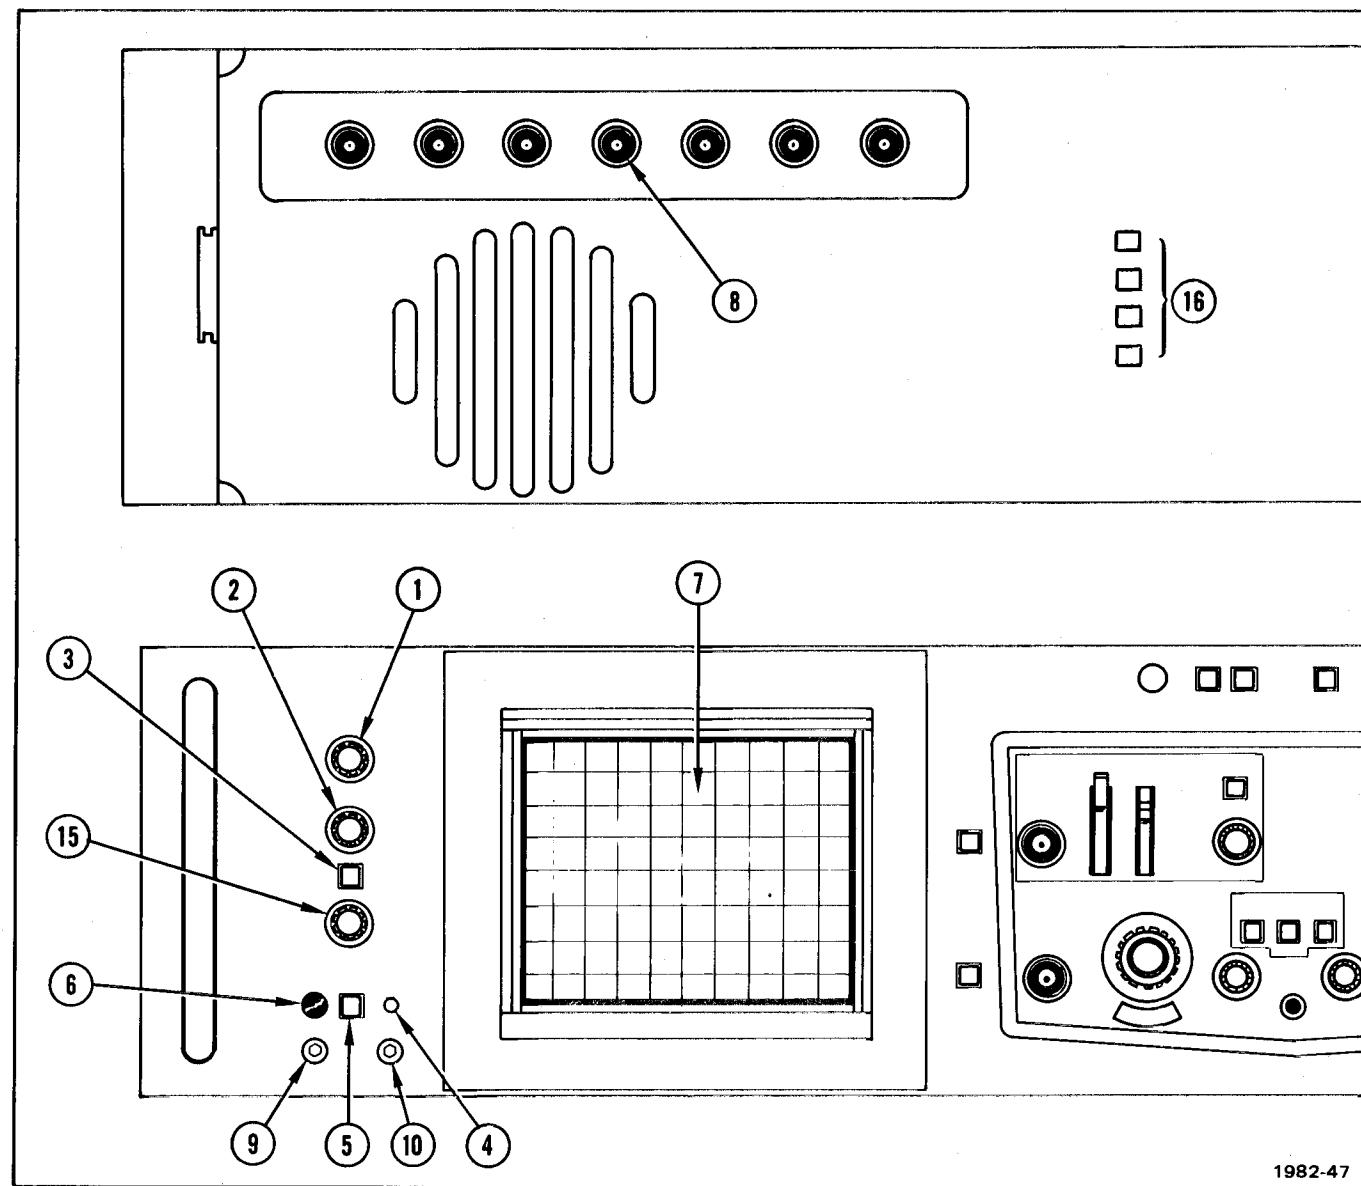

Fig. 2-7. T922R display controls, connectors, and indicators.
A. DISPLAY (FIG. 2-7)
- ① INTENSITY
- ② FOCUS
- ③ BEAM FIND